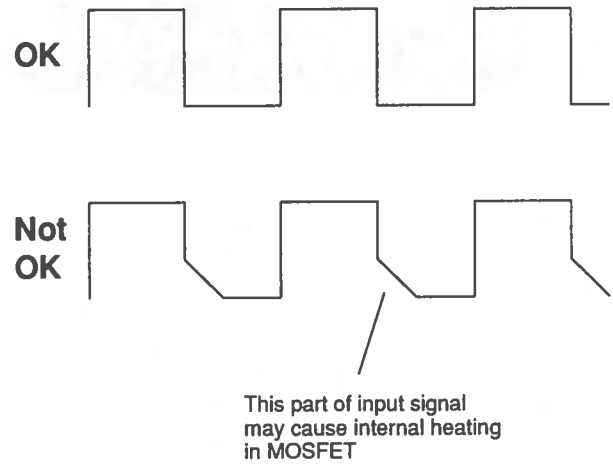

Figure 5. Transitions on input signals should not dally in the threshold region.
- If using pulse width modulation, the pulses must be clean with no analogue component (Fig. 5), otherwise the MOSFET's temperature will rise.